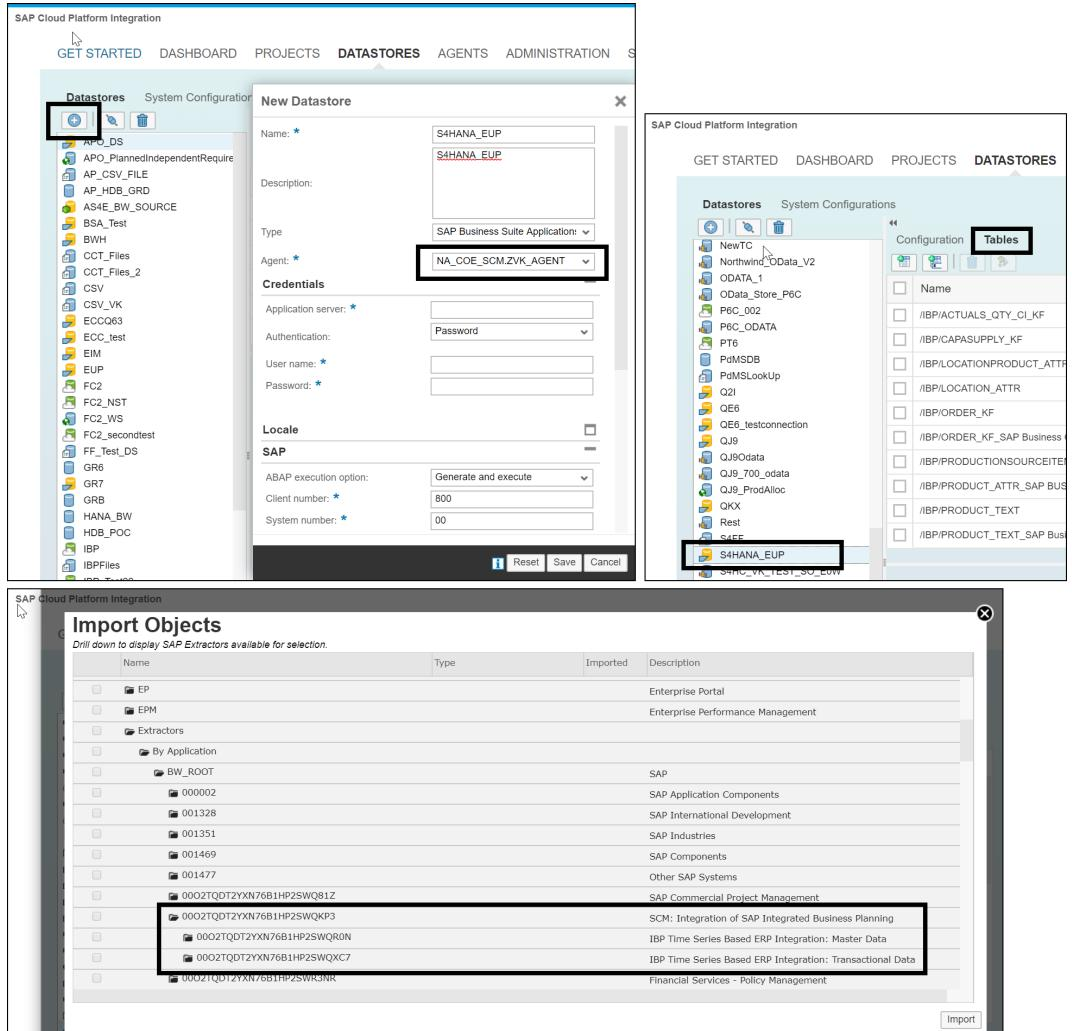

Figure 2.15 Creating a Data Store and Importing Objects
1. Go to the **DATASTORES** tab, click on **Create New Datastore**, and enter the data store details, such as **Name** (e.g., “S4HANA_EUP”), **Description**, **Type**, **Agent**, and **Credentials**. For **Type**, select **SAP Business Suite Application** for SAP S/4HANA or SAP ERP. For example, Figure 2.15 shows the steps to create data store and import objects.